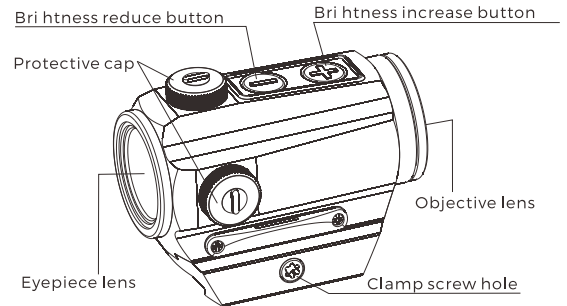

Fig1 PARALOW HS403B Red Dot Sight
- 3.First open the protective lid (see Fig1), position slot type screwdriver on the slotted screw, then rotate the screw to right or left for adjustment. Each left or right click is for one adjustment, equivalent to 0.5MOA value.